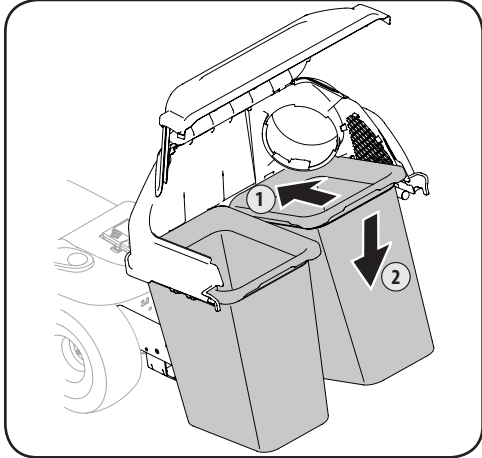

Figure 4-15
7. Install both grass bag assemblies, with the tight mesh sides facing forward, onto the bag support brackets by inserting the front edge in first, as shown in Figure 4-15, and setting the back edge down until it fits into the assembly.